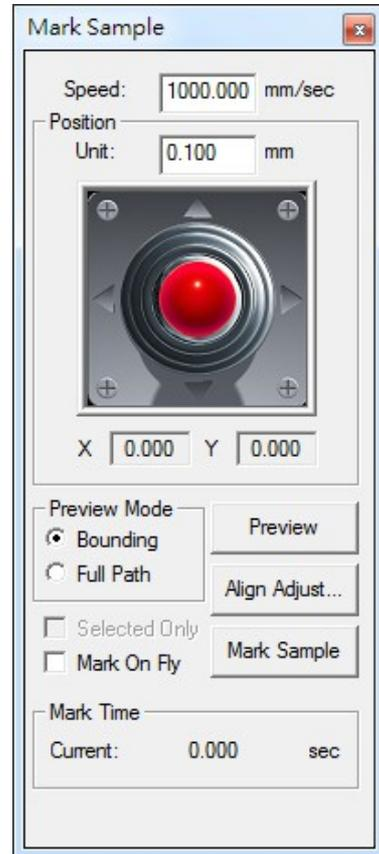

Fig. 5.1.01
This function is used to position the marking object. The interface shows as Fig.5.1.01. It uses align light instead of laser to display marking route on work piece. Users can adjust the position of work piece to fit the marking area through this function. To exit
**Position:** Click the four arrows around the control lever in Fig.5.1.01 to move the align light, and the moving distance depends on X or Y value which is set at “Unit.”